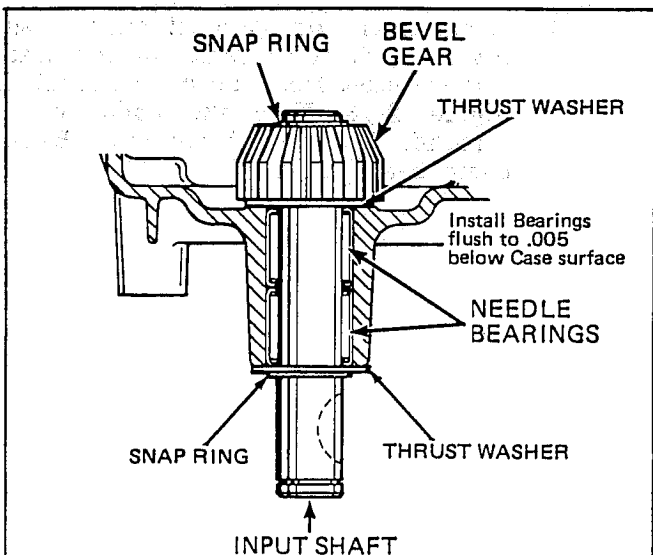

Figure 2-48
9. Remove snap ring from input shaft, remove bevel gear and pull shaft through case. See Figure 2-48.
10. Input shaft needle bearings should be installed flush to .005 below bearing bore surfaces from inside and outside case. See Figure 2-48.